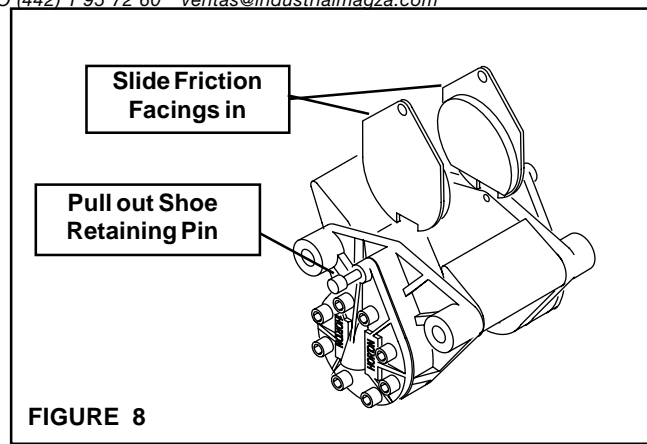

FIGURE 8
1. Pull out the Shoe Retaining Pin (See Figure 8).
2. Slide the Friction Facings into the space between the Caliper and Rotor until the cutout on each Friction Facing is against the lug on the Caliper (See Figure 8).